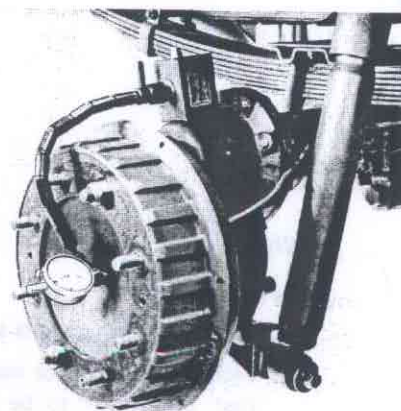

Fig. 77-4. Checking wheel bearing clearance
3. Apply a dial indicator as shown in Fig. 77-4. Press in and rotate the hub, zero-set the dial indicator. Pull out and rotate the hub, read off any clearance in the bearings. If clearance exceeds 0.08 mm (0.0032"), adjust the wheel bearings as follows: